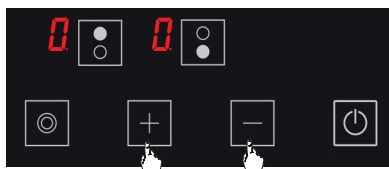

Figure 12
2. Using the **+** and **-** keys, bring the temperature on all hobs to **0**. (see Fig. 12) Stove shall be turned off by itself after 20 seconds